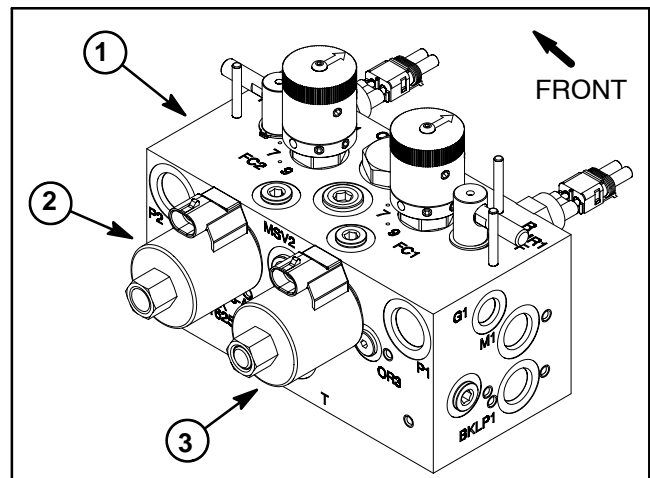
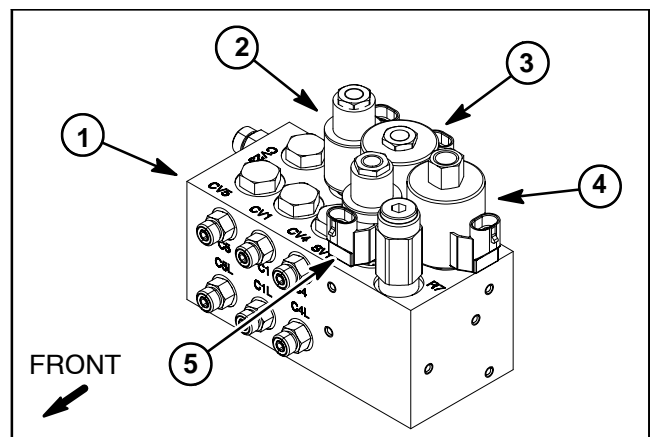

Figure 51
Figure 52
The Reelmaster hydraulic system uses several hydraulic solenoid valve coils for system control. The cutting deck manifold includes two (2) solenoid valves (Fig. 52) and the lift control manifold includes four (4) solenoid valves (Fig. 51). When the solenoid coils are energized, hydraulic valve shift occurs to control hydraulic flow. Testing of the coils can be done with the coil installed on the hydraulic valve.
3. To gain access to cutting unit control manifold (Fig. 51), raise and prop the operator seat. Access to the lift control manifold (Fig. 52) can be obtained by removing the operator floor plate.
4. Disconnect harness electrical connector from hydraulic solenoid valve coil that is to be tested (Fig. 51 or 52).